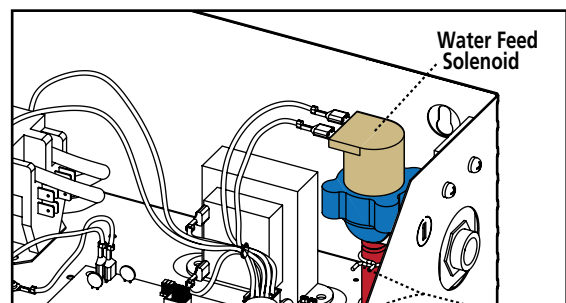

Figure 2
1. Check blue bowl on water feed solenoid. (Fig.2)